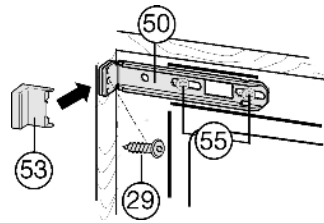

Fig. 20
- ▶ Slightly loosen the screws Fig. 20 (55).
- ▶ Secure the top mounting bracket Fig. 20 (50) to the unit wall with a  $\varnothing 4 \times 19$  chipboard screw Fig. 20 (29).
- ▶ Break off the protruding end of the cover Fig. 20 (53).
- ▶ Tighten the screws Fig. 20 (55).
- ▶ Place the cover Fig. 20 (53) in position.